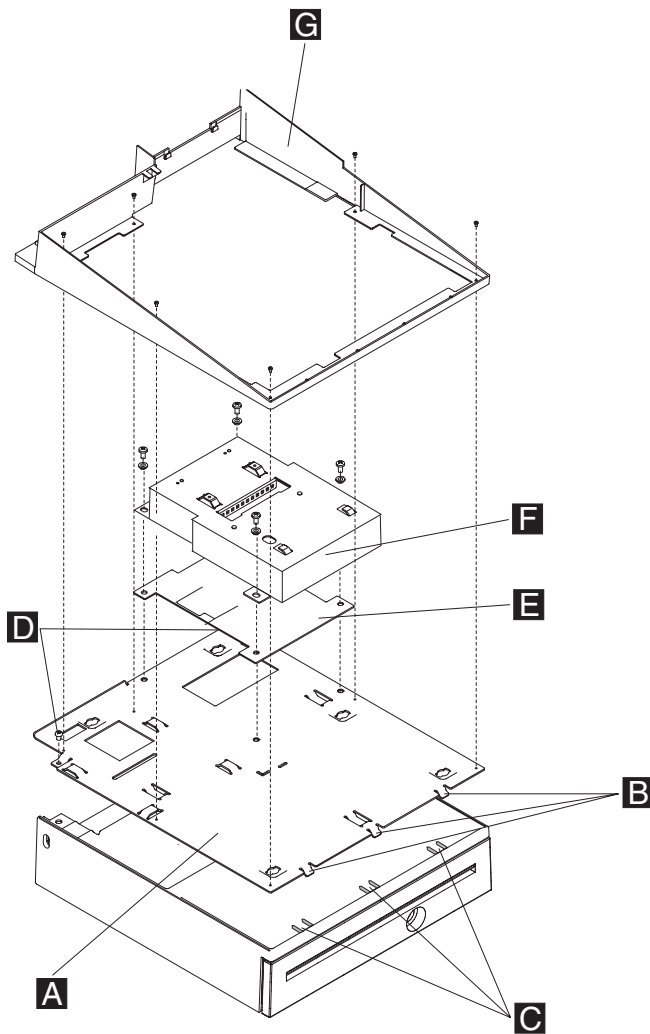

Figure 80. Removing the keyboard integration tray attached to a cash drawer
- a. Remove the fence **G** by removing the six small screws, as shown in Figure 80.